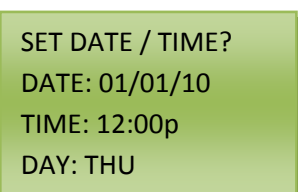

Figure 13.3
- a. This Action allows for the current date and time to be programmed into the Time-Keeper®. The cursor will be on the colon between the words DATE and 01/01/07. Press the RIGHT Arrow to move the cursor over to the Month. Use the UP or DOWN Arrow to change the Month. Press the RIGHT Arrow to move the cursor over to the Day. Use the UP or DOWN Arrow to change the Day. Press the RIGHT Arrow to move the cursor over to the Year. Use the UP Arrow to change the Year. To return the colon between the words DATE and 01/01/07, press the LEFT Arrow three times. See Figure 13.3 for a visual example.